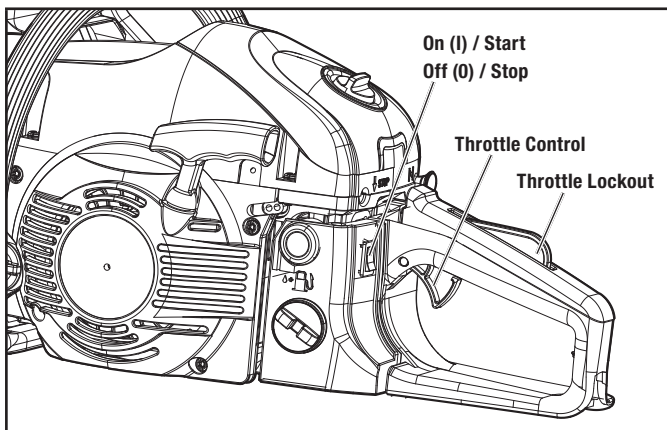

Figure 3
4. DO NOT touch the throttle control (Fig. 3). Set the chainsaw on a flat, level surface. Crouch in the starting position (Fig. 5) or bend over. Hold the front handle with the left hand. Hold the starter rope grip with the right hand. Insert the right foot into the boot loop to help hold the chainsaw firmly in place. Pull the starter rope rapidly until the engine pops or putters, or up to 4 times if you do not hear or feel the engine putter. The engine may start on this step, if not proceed to next step.
2. To stop the engine, depress and hold the STOP switch (Fig. 3) to the stop position.